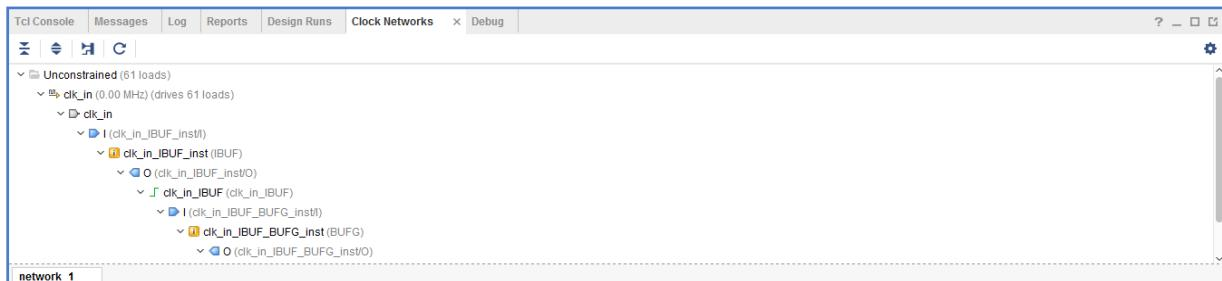

Figure 6.12: Clock Networks Report
- **Report Clock Networks:** Generates a clock tree for the design, see Figure 6.12. This option creates a tree view of all the logical clock trees found in the design, annotated with existing and missing clock definitions and the roots of these trees.